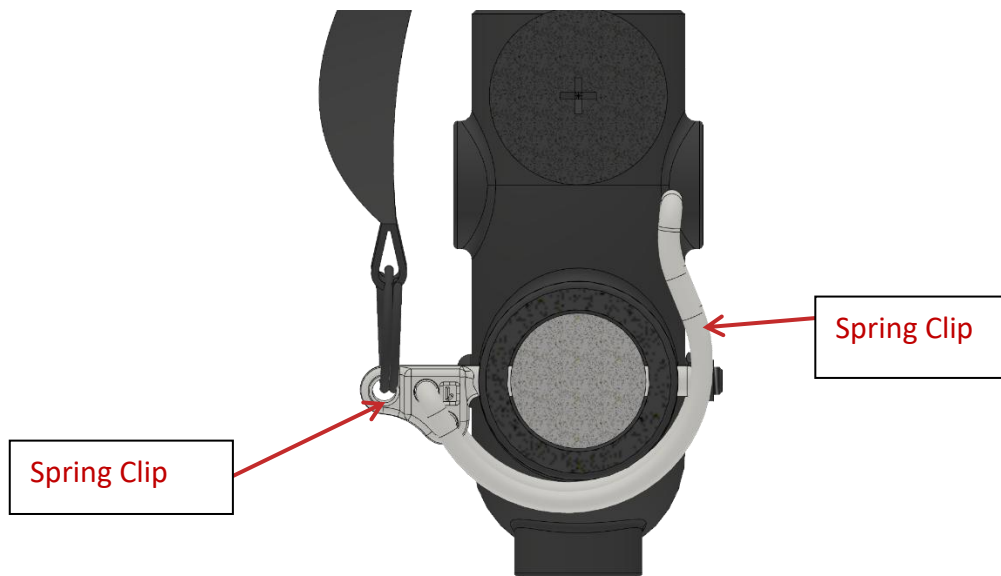

Figure 12 Crosssection view of properly closed spring clip
Step 1: Place the upper frame with mounted projector on top of the lower frame with mounted projector. Make sure the four male bolts enter into the correspondent female bolts. To secure, insert the spring clips through the holes in the female bolts. Always make sure that the spring clips are locked after being inserted. See also Figure 12 illustrating a properly closed spring clip.